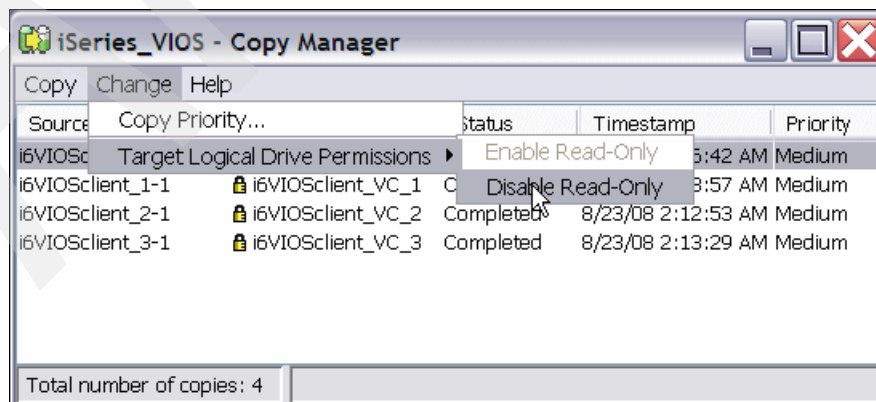

Figure 8-26 Disable Read-Only on Volume Copy logical drives
- After data are copied to Volume Copy logical drives. The Volume Copy drives are locked for writes. To make these available for both reads and writes, right-click a Volume Copy drive in the Subsystem Management Physical/Logical view, select **Copy Manager** from the pull-down, in the Copy Manager window select each logical drive, and click **Change** → **Target Logical Drive Permissions** → **Disable Read-Only**, as can shown in Figure 8-26.